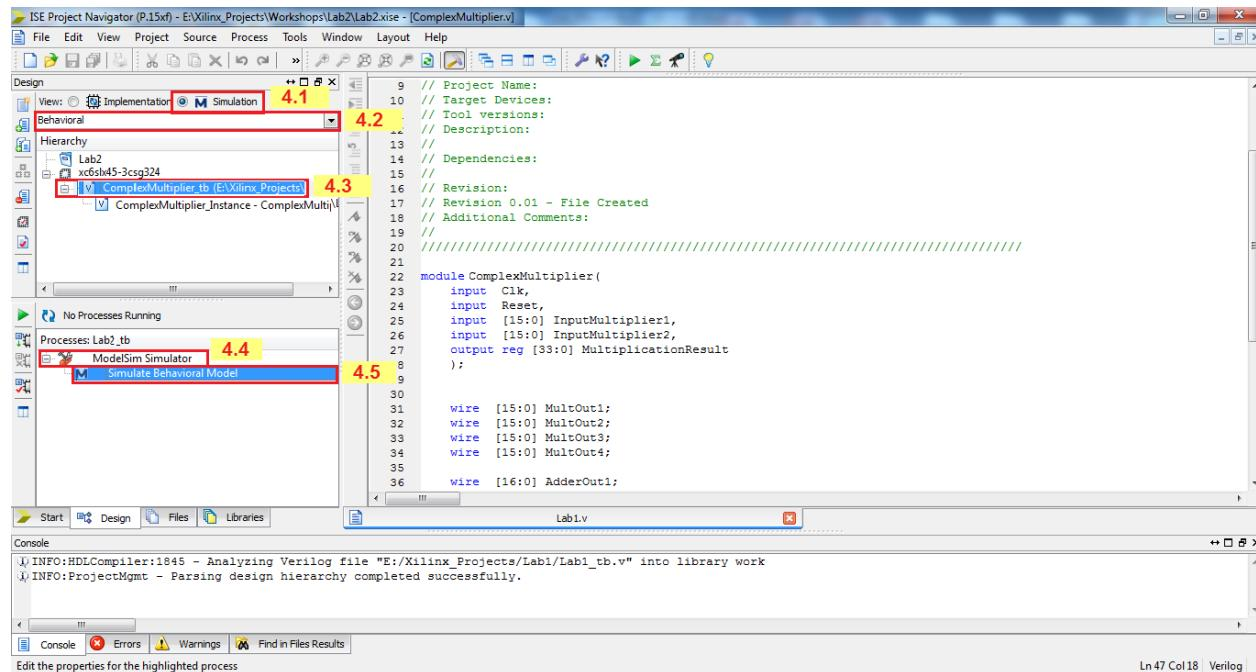

Figure 10.
4. Start the Behavioral Simulation (Figure 10)